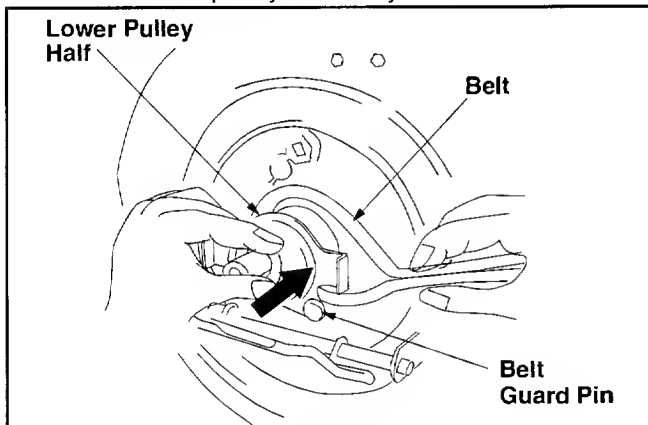

Figure 22
- Pinch both sides of the belt together so that the belt is not in the pulley groove, and the lower pulley can be pushed towards the engine. See Figure 22.